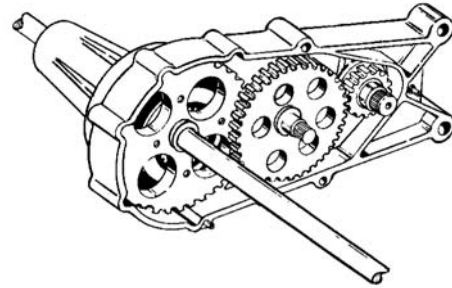

Figure 5-106. Clean Parts
10. After transaxle housing halves have been separated, clean all grease from parts. See Figure 5-106.